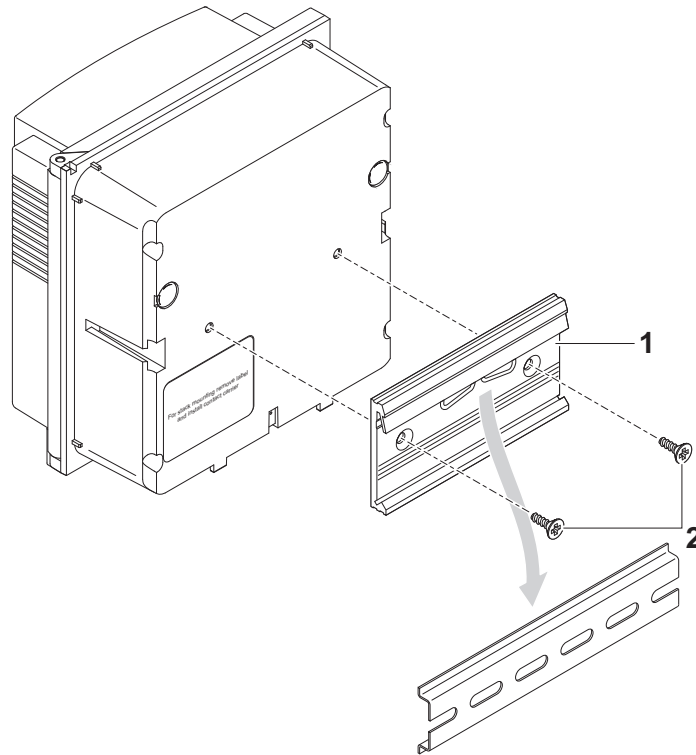

Fig. 3-21 Mounting the Universal Transmitter on a top hat rail
1	Screw the clamping assembly (pos. 1 in Fig. 3-21) onto the back of the Universal Transmitter with the two plastic tapping screws (pos. 2).